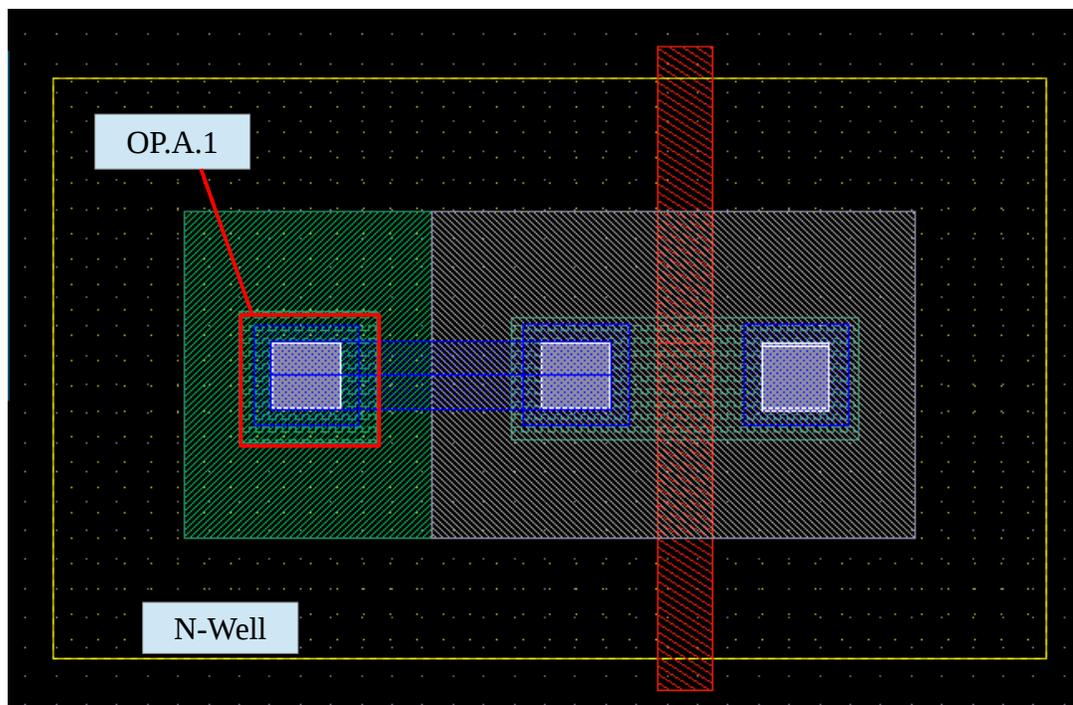

Fig. 6: PMOS transistor. The yellow box defines N-Well for PMOS transistor. Minimum size of N+ active are limited by the rule OD.A.1.
16. Place the substrate as close to the PMOS as possible. See Figure 6.
18. Select the “**nwell dwg**” layer and create an N-well around the transistor as shown in Figure 6.